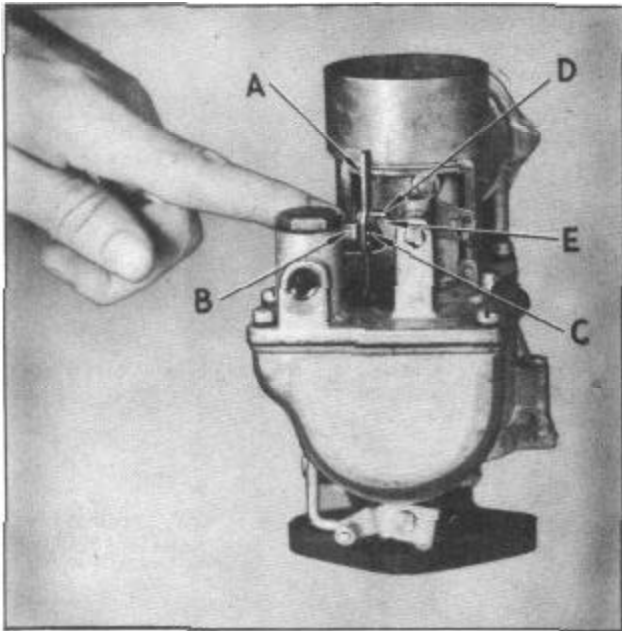

Figure 20--Metering Rod Setting
1. Remove the metering rod and insert gauge J 1265 (2.468") (A) Figure 20, in its place.
2. Back out throttle screw, close throttle valve tight. Press lightly on piston link (B) until metering rod pin rests in shoulder (C) of gauge.
3. Bend lip (D) of piston link so that less than .005" clearance is obtained between lip and pump arm (E).